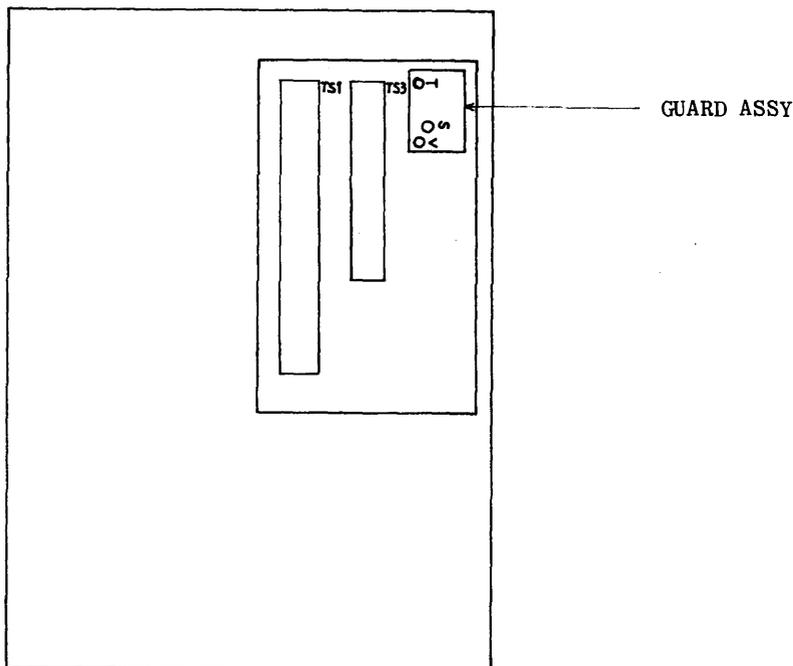

FIG. 1 - REAR VIEW OF TEL SET
4.63 Remove and insulate the lead on terminal T of the guard assembly on the rear of the Tel Set. Refer to Fig. 1 for the location of the guard assembly and terminal T.